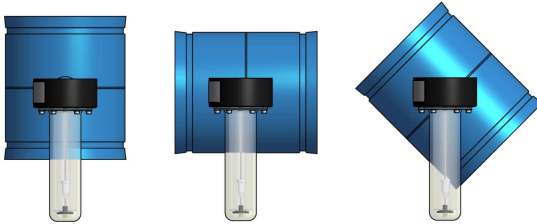

Fig. 6 Examples of installation
The installation can be in any line routing - horizontal to vertical - place (fig. 6). However, it is important to ensure that the flow direction of the arrow marked on the device and corresponds to the differential pressure sampling tube (fig. 9/10, pos. 7) is in the horizontal position.